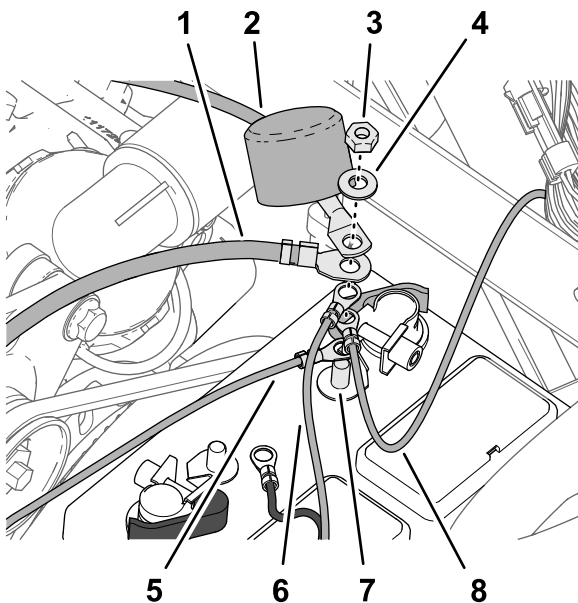

Figure 210
- Assemble the following wire and cable terminals onto the threaded post of the positive battery terminal (Figure 210) in the following order:
4. Align the insulator cover of the positive battery cable to the starter over the threaded post (Figure 210).